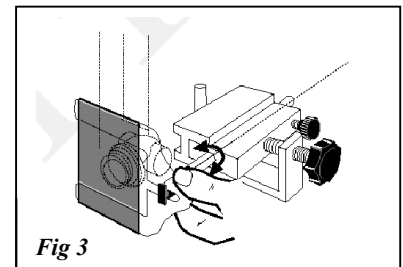

Fig 3
- Engage cap with the slot and rotate the rod 1/2 a turn to connect. Fig 3